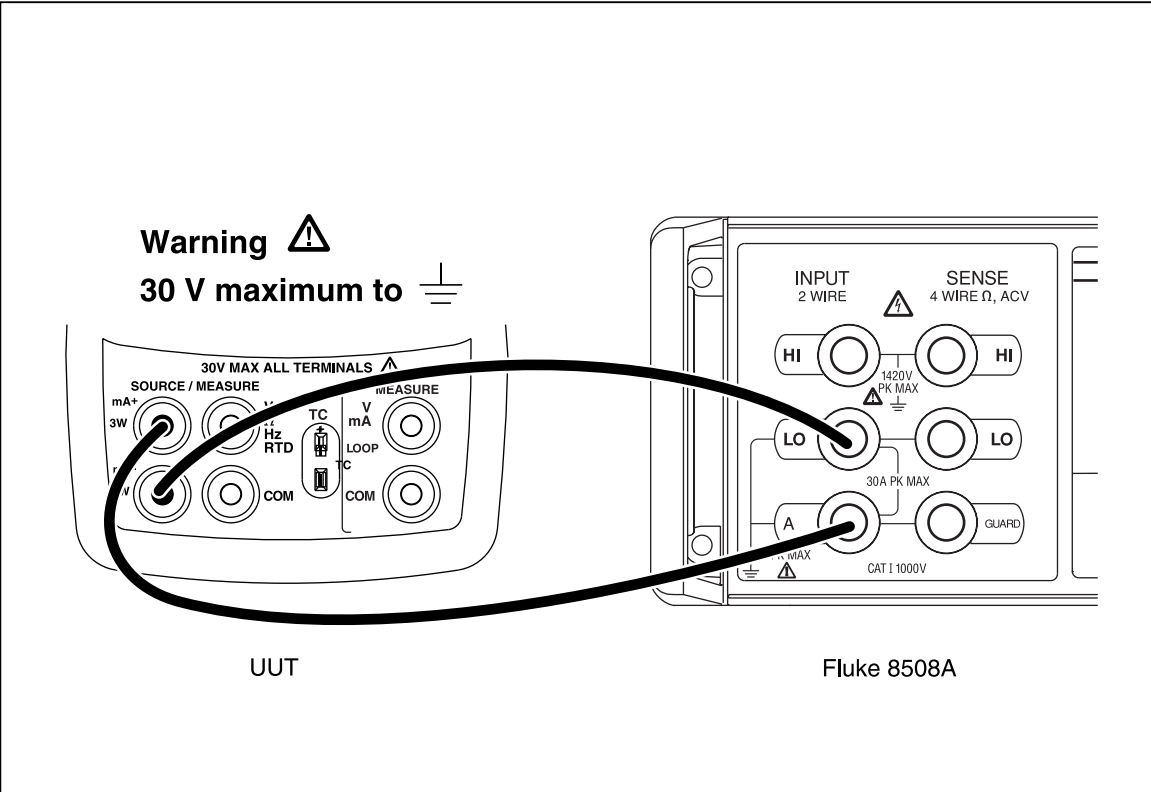

Figure 11. Lower Display mA Source Connections
- 3. Connect the UUT and the Fluke 8508A as shown in Figure 11.